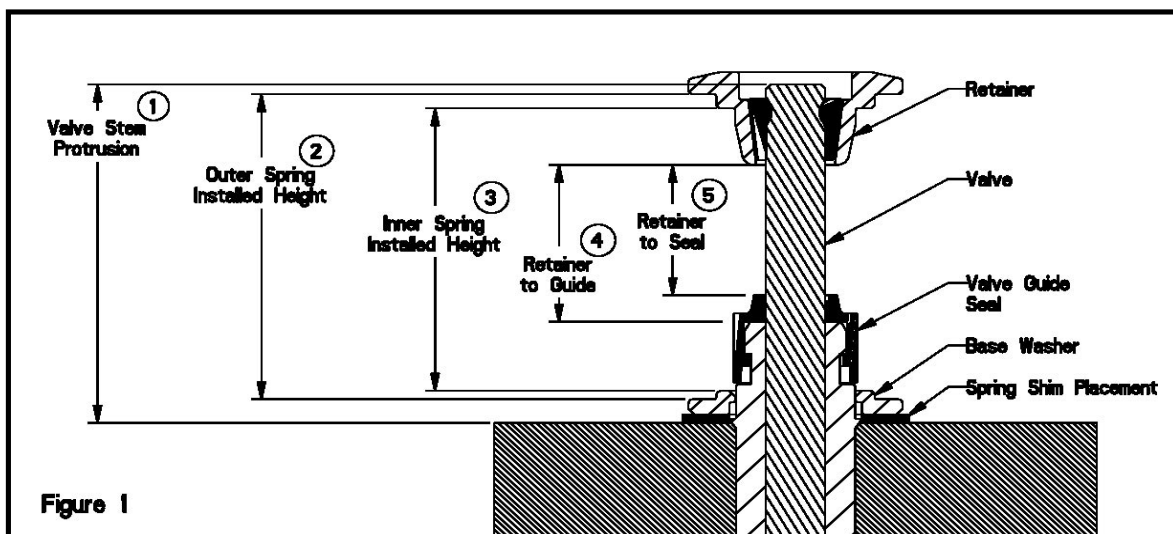

Figure 1
1. Stem Protrusion is measured from the tip of the valve stem to the cylinder head. See Figure 1.
2. Outer spring installed height is measured where the outer spring contacts the retainer and lower valve component when assembled. See Figure 1.
3. Inner spring installed height is measured where the inner spring contacts the retainer and lower component when assembled. See Figure 1.
4. Retainer to guide clearance is the distance between the valve guide (w/o the seal) and the bottom of the retainer, with the valve in the closed position. See Figure 1 and Notes 3 & 4.
5. Retainer to seal clearance is the distance between the valve stem seal and the bottom of the retainer, with the valve in the closed position. See Figure 1 and Notes 3 & 4.